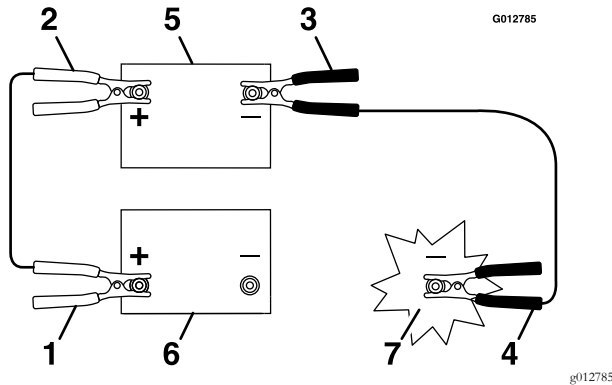

Figure 27
3. Connect the positive (+) cable to the positive (+) terminal of the discharged battery that is wired to the starter or solenoid as shown in Figure 27.